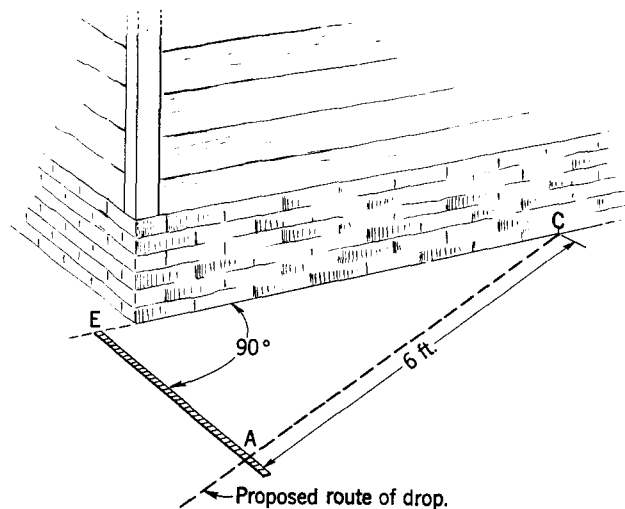

Fig. 1 — Laying Out Angle
2.03 Angle of  $30^\circ$  can be approximately determined by sight if it is remembered that  $30^\circ$  is  $1/3$  of a right angle ( $90^\circ$ ). The following method may be used to check this angle (see Fig. 1):